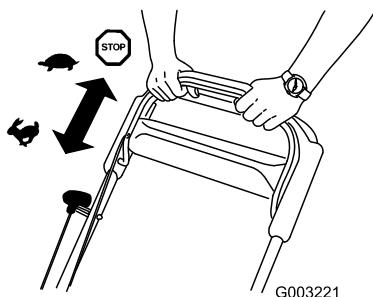

**Figure 15**
2. Push the electric-start button (electric-start model only) (Figure 14) or pull the recoil start handle (Figure 15).